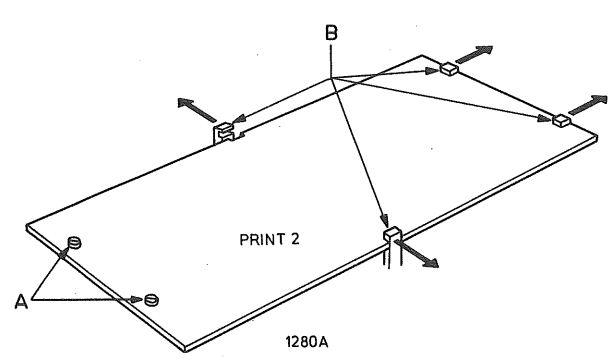

Fig. 6
- Replacing potentiometers (see Fig. 6)